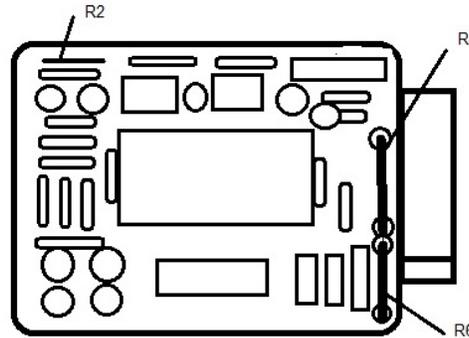

Figure 4. Component Location
- Polarity is enabled from factory. To remove the polarity sign, remove R2 (see figure 4).
3. Observe resistor values for R4 and R6 and compare to Table I and Figure 4. Install resistors of values specified in Table I to obtain desired range.